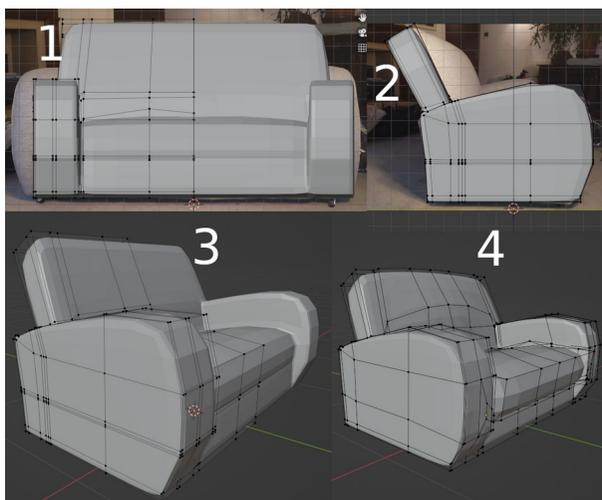

Figure 8-10 The Sofa after adding edge loops.
10. Your challenge now is to add the minimum number of edges to produce a likeness of the sofa. When you toggle the subdivision visibility in Edit mode back on, everything will be rather rounded, but judicious placement of edges will create the required balance of curvature. Figure 8-10 stages 1, 2 and 3 show the modeling after edge loops had been inserted. You can see that you need to put three edges close together to form creases around the seat (that place where all the coins and ball-point pens disappear). When the overall shape is correct, delete the extra edges on flat areas where they are not needed, using dissolve edges, and finally sort out the few faces that are no longer quads, using the knife tool. In Figure 8-10 stage 4 you can see on the front of the arm where I had to divide up a six sided polygon.